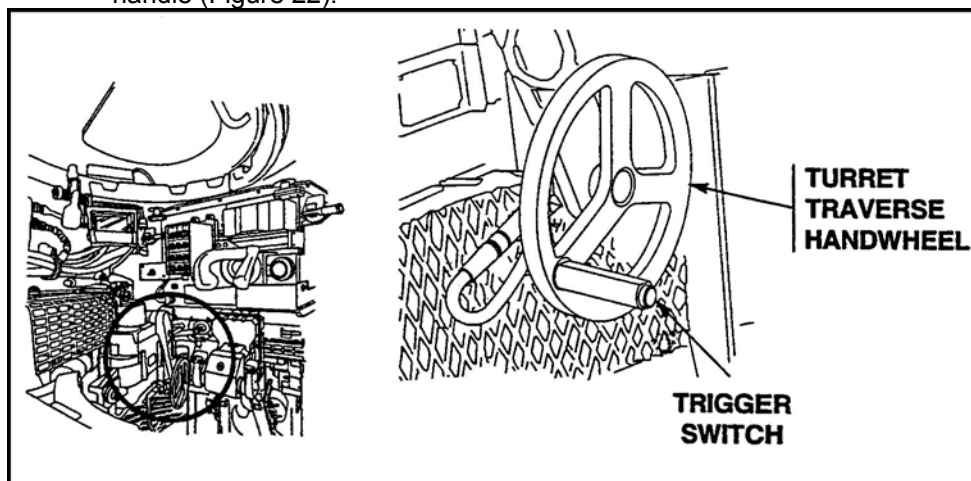

Figure 22. Turret traverse handwheel and manual trigger.
- (c) Move the rate of fire switch to single shot (SS).
- (d) Press and release the manual trigger located on the end of the traverse handwheel handle (Figure 22).